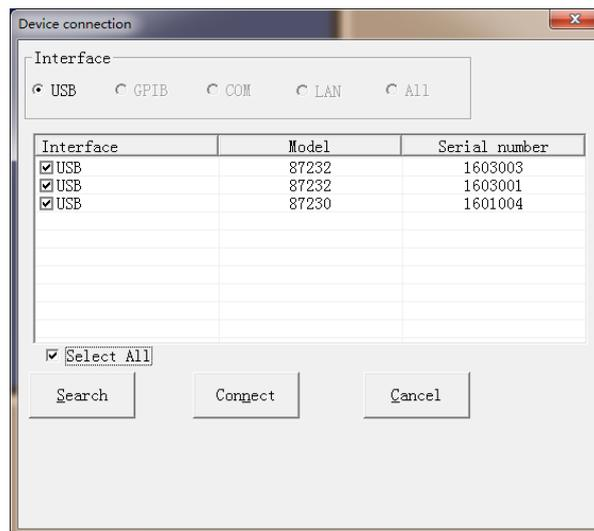

Figure 4.5 Devices Connected with Multiple USB Continuous Wave Power Sensors
Step 1. Open the virtual power measurement panel, and the system automatically finds multiple USB continuous wave power sensors that are connected. Select all the power sensors that are connected, and click the "Connect" button, as shown in Figure 4.5, the system automatically displays the USB continuous wave power sensor which is first found and display the measurement result;